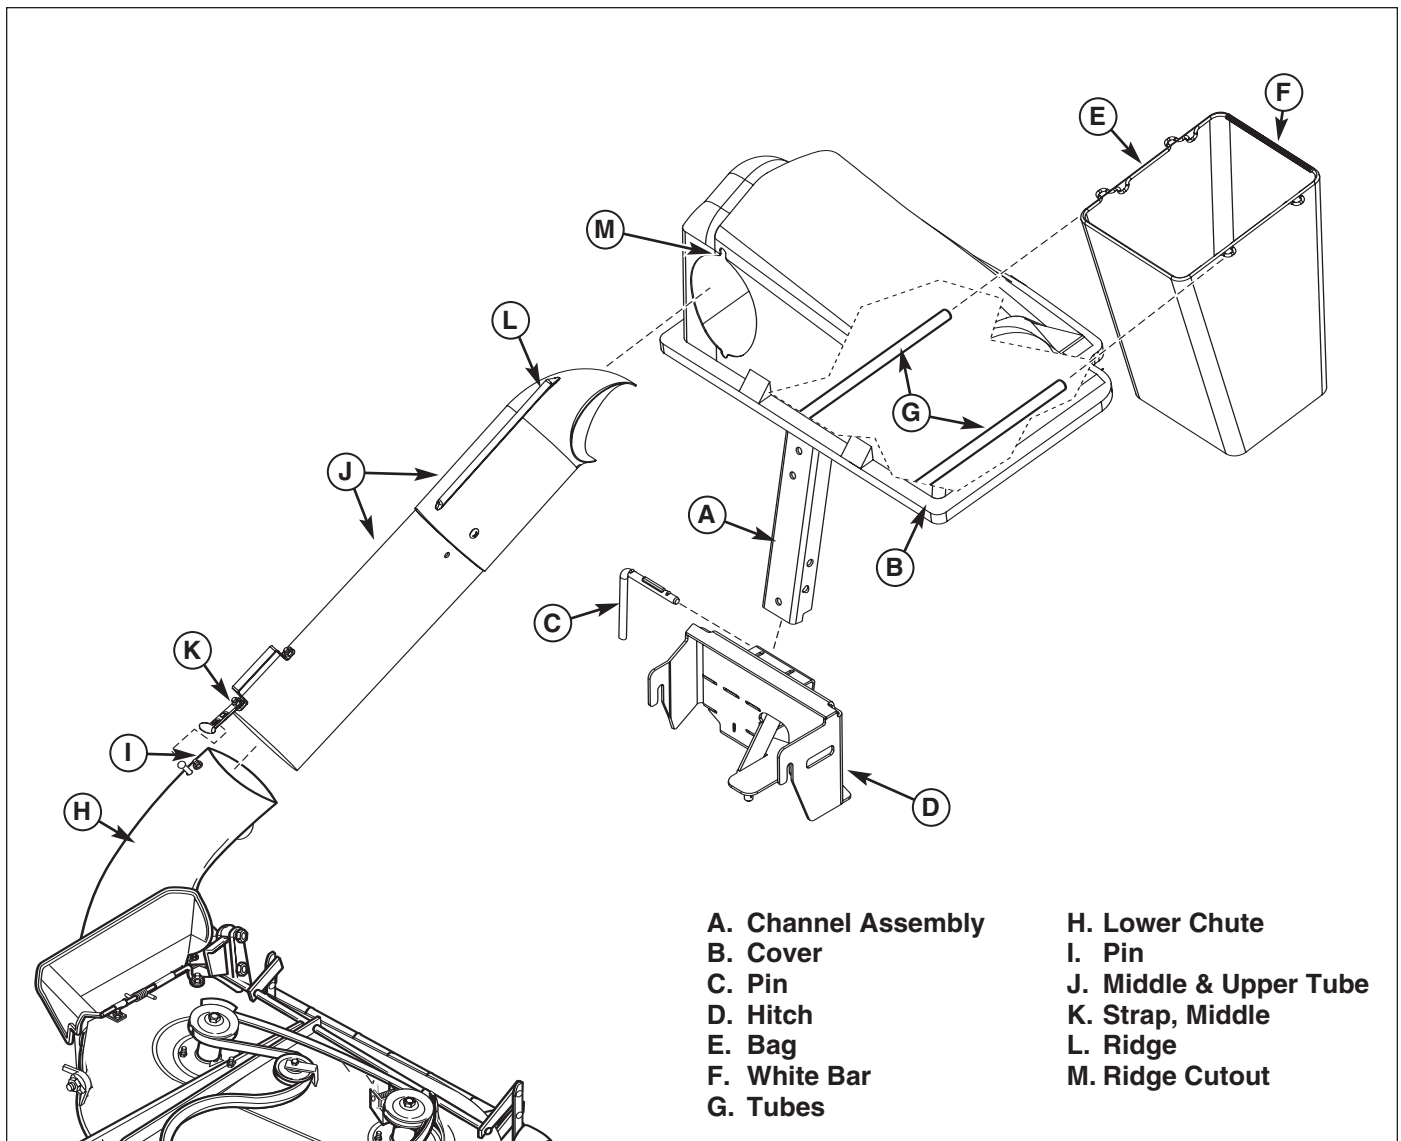

Figure 17. Normal Installation & Removal
2. Place the front hole of the lower chute (A) onto carriage bolt (C) as shown. Slide front edge of lower chute (A) under hinge bracket (G).
3. Place the rear hole of the lower chute (A) onto carriage bolt (F) as shown.
4. Secure knob (B) onto carriage bolt (C) as shown.
5. Secure wing nut (D) onto carriage bolt (F) as shown.
6. Mount the the channel assembly (A, Figure 17) into hitch (D). Secure by inserting pin (C) into the right side of hitch (D) and turning pin (C) counterclockwise to lock in place.
7. Pivot cover (B) up. Install bags (E) with white bar (F) towards the rear.
8. Slide the upper and middle tube (J) aligning ridge (L) with cutout (M) as shown.
9. Slide middle and upper tube (J) over lower chute (H). Pull strap (K) and place hole completely over pin (I).
1. Unhook strap (K, Figure 17) from pin (I). Remove middle and upper tube (J) from cover (B).
2. Lift up cover (B) remove and empty bags (E).
3. Remove pin (C). Lift and remove channel assembly (A) and cover (B) from hitch (D).